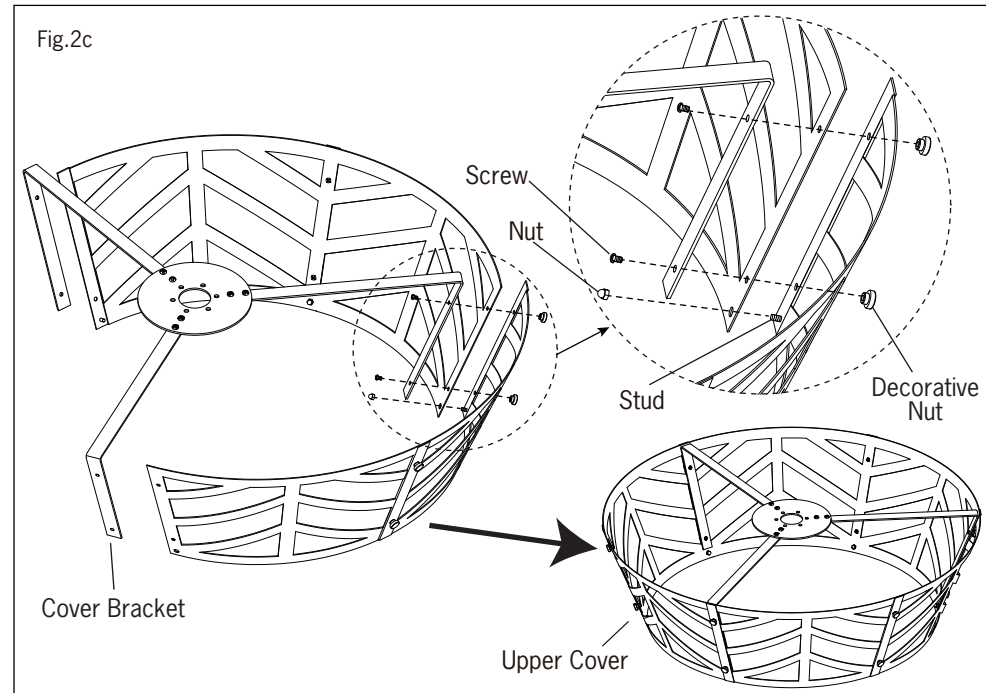

Fig.2c
- Put stud of second large mesh panel through the hole of first large mesh panel and the cover bracket as shown in Figure 2c, and tighten nut by hand.
- When the upper cover is completely assembled, adjust shape accordingly (Fig 2c) and tighten all screws and nuts.